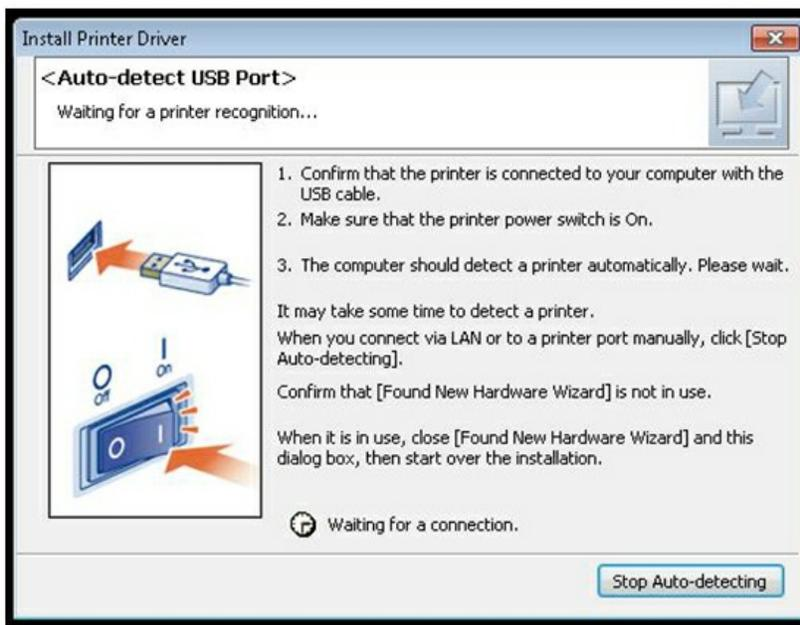

FIGURE 14
14. Once the files are finished copying, power the printer **ON**, plug the USB cord into the computer and the computer will begin auto-detecting the port. See Figure 14.